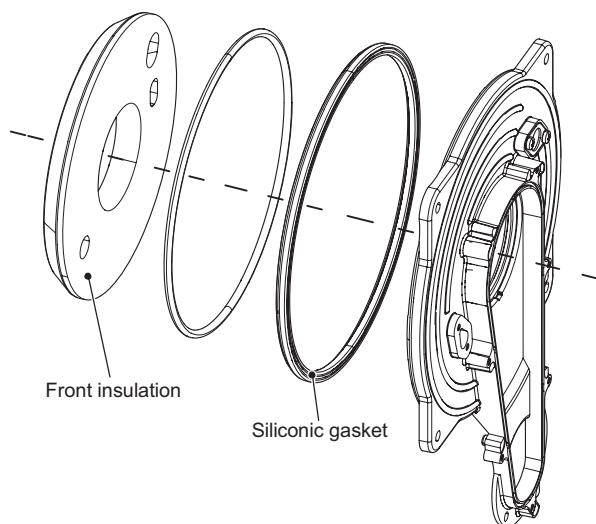
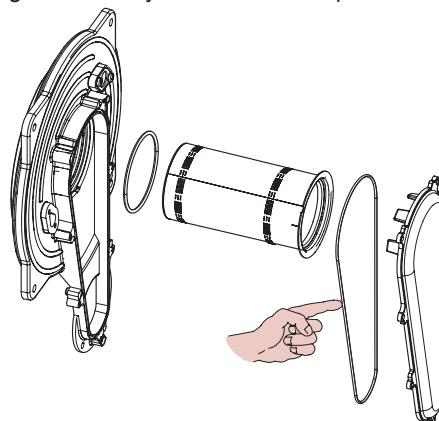

Figure 18.6
Figure 18.7
- 3 Remove the front insulation panel (Figure 18.6).
chamber silicon seal (Figure 18.6) and the Air-gas duct gasket (Figure 18.7) must be fully inspected and replaced at the discretion of the service engineer.